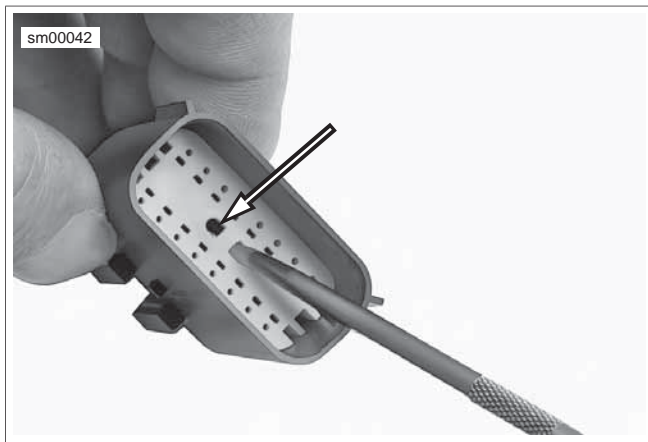

Figure A-35. Molex Connector: Secondary Lock D-Holes (Pin Housing)
- b. **Pin Housing:** See Figure A-35. Use needle nose pliers to engage the D-holes in the center of the secondary lock.